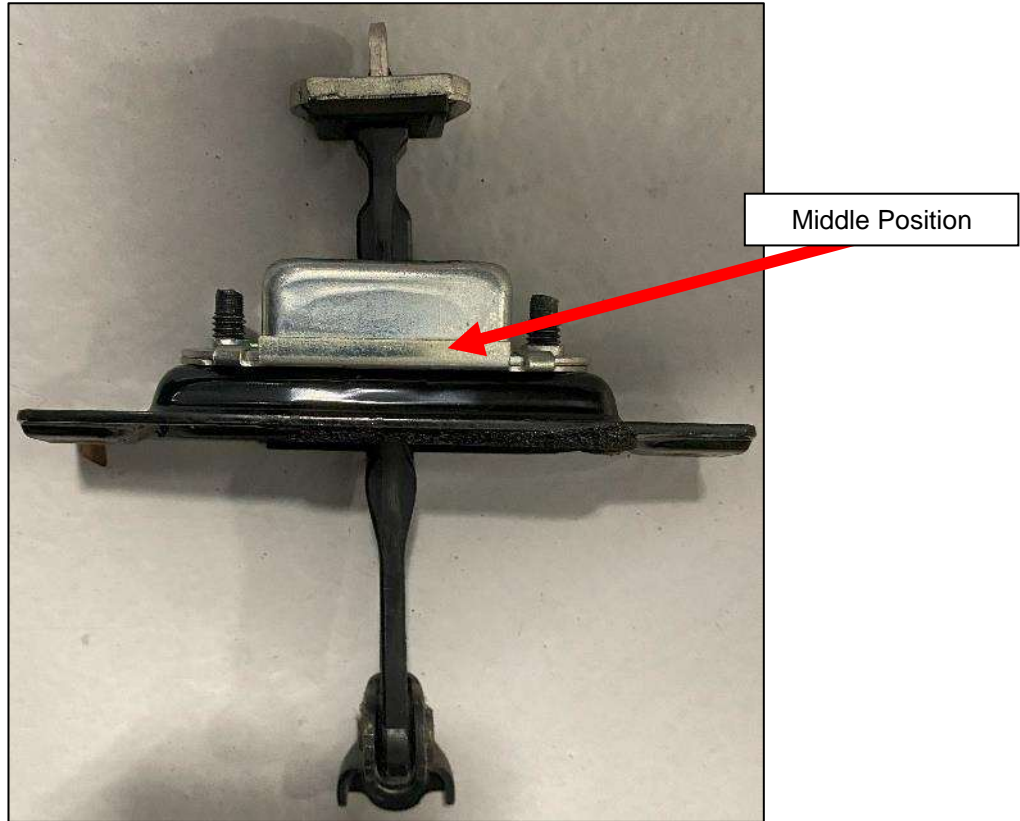

Figure 101
1. Move the Plate to the middle position of the Check Link Assembly. This is necessary to easily remove the OE Door Stoppers. *Figure 101.*